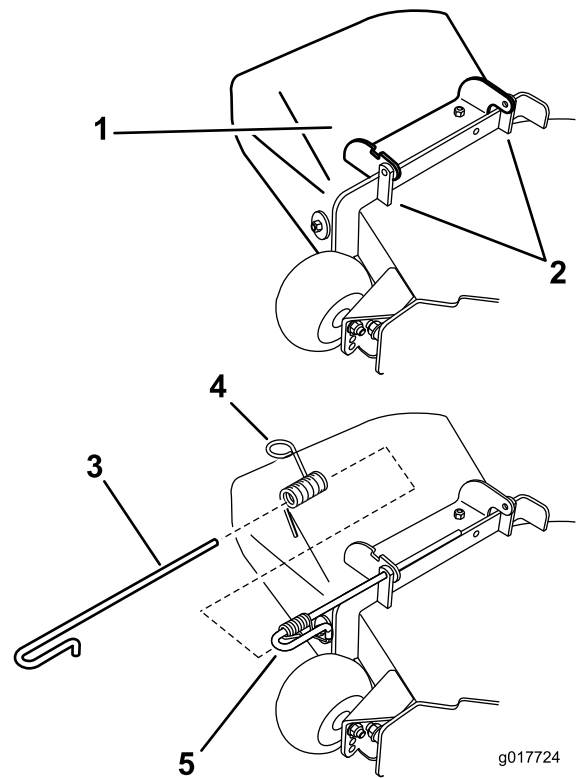

Figure 71
1. Disengage the spring from the notch in the deflector bracket and slide the rod out of the welded deck brackets, spring, and discharge deflector (Figure 71). Remove the damaged or worn discharge deflector.
2. Position the new discharge deflector with the bracket ends between the welded brackets on the deck as shown in Figure 71.